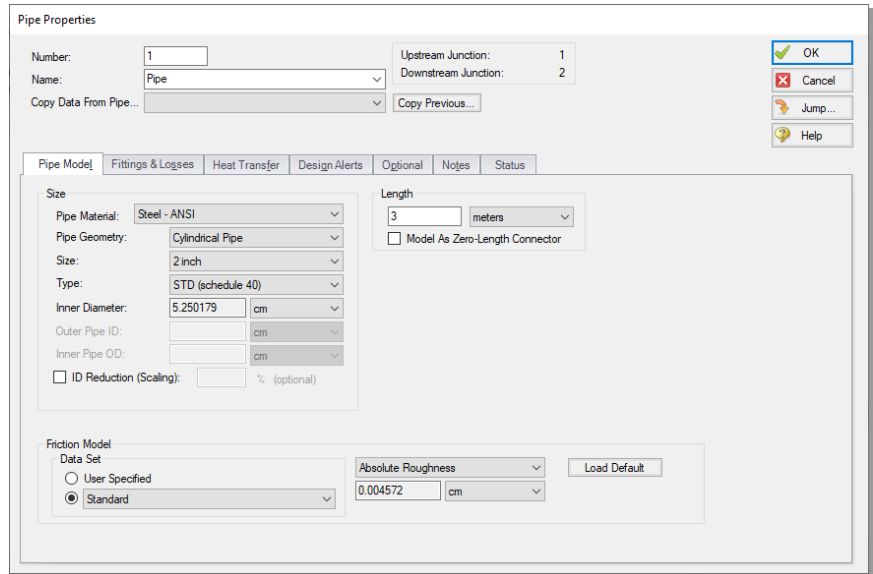

Figure 2.12 Properties window for Pipe P1
- **First, open the Pipe Properties window** for Pipe P1 (see Figure 2.12). For Pipe P1 enter Steel - ANSI, 2 inch, STD (schedule 40), Standard friction model, and a length of 3 meters.